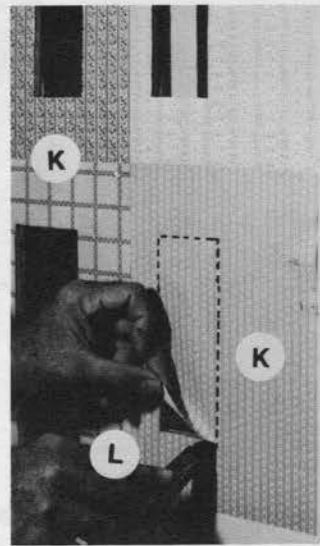

Fig. D-16
A few hours later, when the paper is brittle dry, use your utility knife, (L), to cut out the openings for doors and windows, (K), (FIGURE D-16).